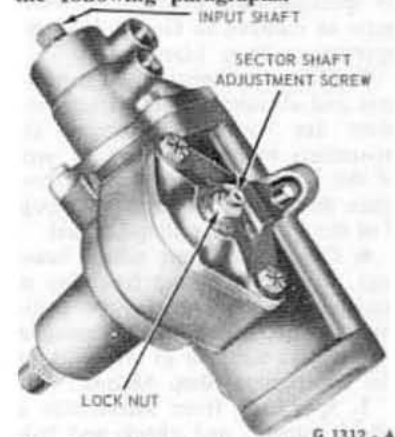

Fig. 66—Adjusting Power Steering Mesh Load—Typical
6. Turn the steering gear back to center, then determine the torque required to rotate the shaft back and forth across the center position. Loosen the adjuster nut, and turn the adjuster screw in (Fig. 66) until the reading is 8-9 in.-lb greater than the torque 45° from the stop (max. 14 in.-lb).